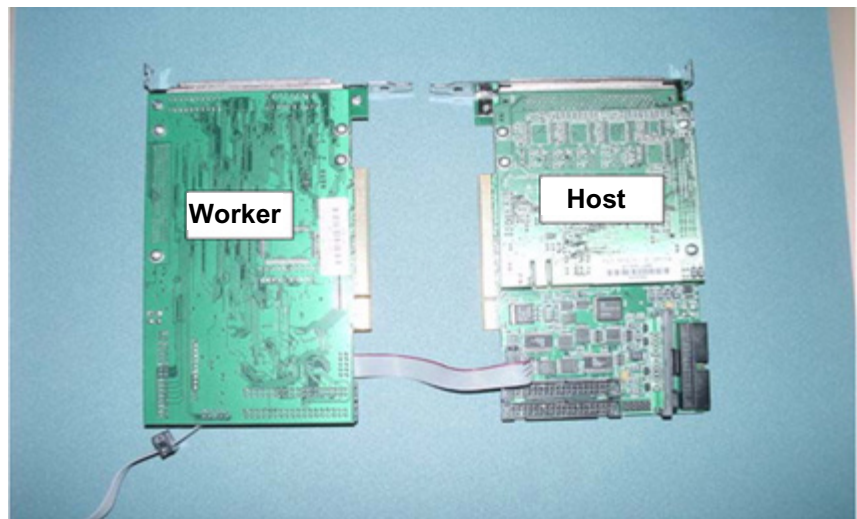

Figure 3-1
7. If installing a second board, connect the Host board to the Worker board by the ribbon cable as shown in Figure 3-1. Of course, a second connector board must also be used.